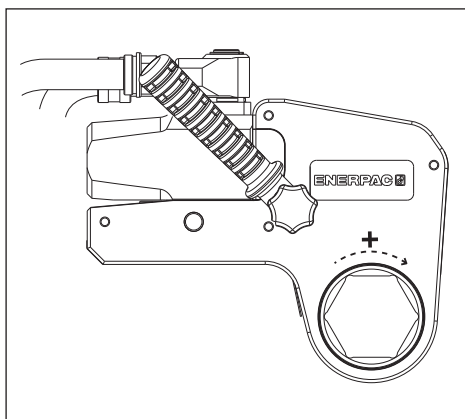

Fig. 9
4.3.1 Tightening a Nut or Bolt (Fig. 9 and 10)
- Position the reaction foot (17) against a suitable reaction point (18). The reaction point will counteract the force caused by operating the tool.